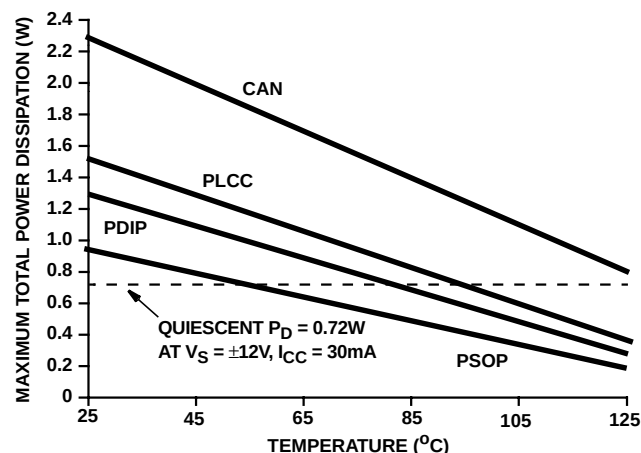

FIGURE 5. MAXIMUM POWER DISSIPATION vs TEMPERATURE
- Maximum power dissipation, including load conditions, must be designed to maintain the maximum junction temperature below 175°C for the metal can package, and below 150°C for the plastic packages (See Figure 5.).
- Maximum operating temperature in the PSOP package is limited to 60°C , for $V_{\text{SUPPLY}} = \pm 12\text{V}$ to prevent the junction temperature from exceeding 150°C . The maximum operating temperature may have to be derated further, depending on the output load condition. The operating temperature may be increased if the HA9P5033 is operated at lower V_{SUPPLY} . For example, the quiescent operating temperature may be increased to 75°C by operating at $V_{\text{SUPPLY}} \leq \pm 9.7\text{V}$. See Figure 5 for more information.
Figure 5 is based on: